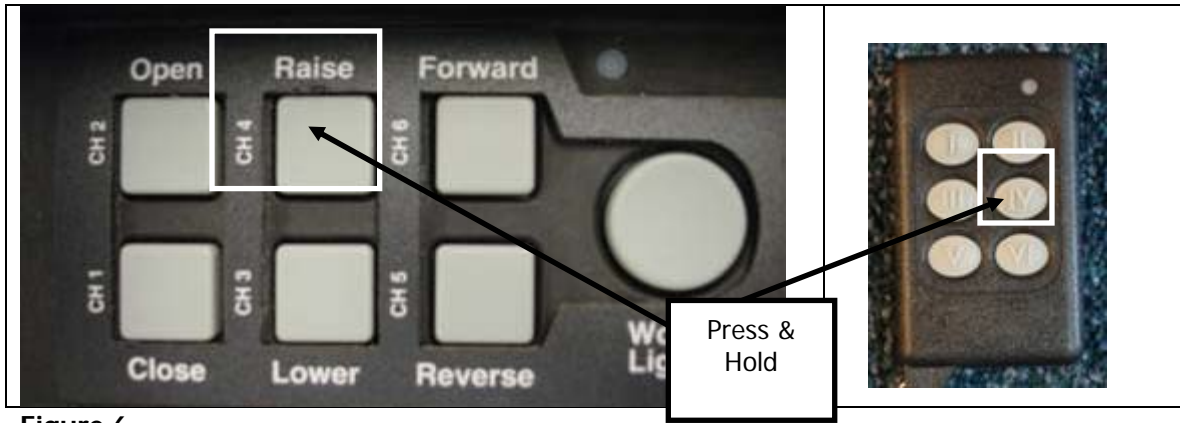

Figure 6
- 2) If you have an adjustable tower, raise tower to maximum height to prevent the tarp from dragging on the load. To raise tower press & hold button 4 on your control box or key fob (see Fig. 6). For non remote control systems there will be a manual valve to operate your tower.